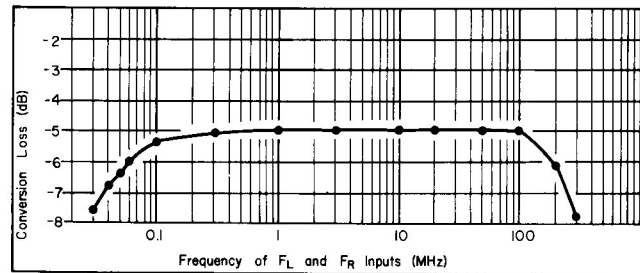

Figure 4. Frequency Response of Conversion Loss
f. Figure 4 represents the conversion loss of a typical Model 10534A/B/C Mixer used as a mixer